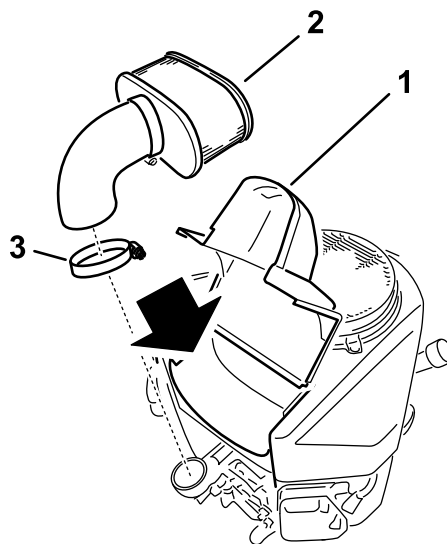

Figure 38
4. Loosen the hose clamp and remove the paper element (Figure 38).